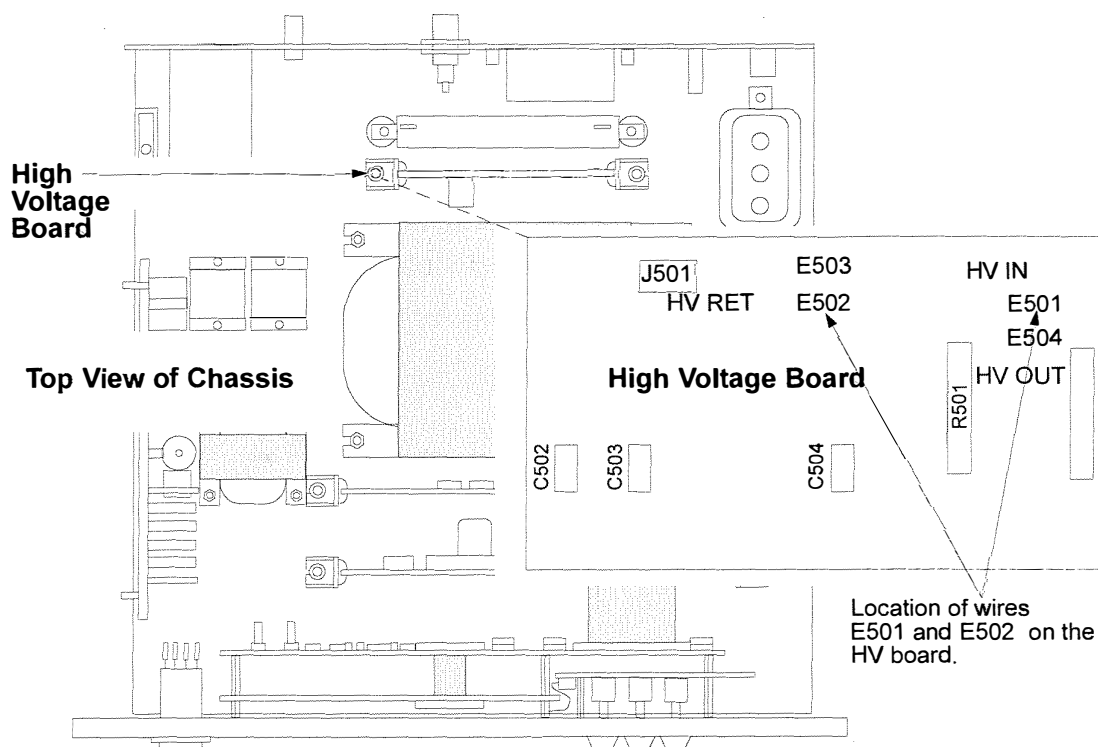

Figure 2-2. Location of E501 and E502 on HV Board
**Note** For negative output operation, the polarity must be changed. To do this, reverse the position of wires E501 and E502 on the high voltage (HV) board and solder them (Figure 2-2).